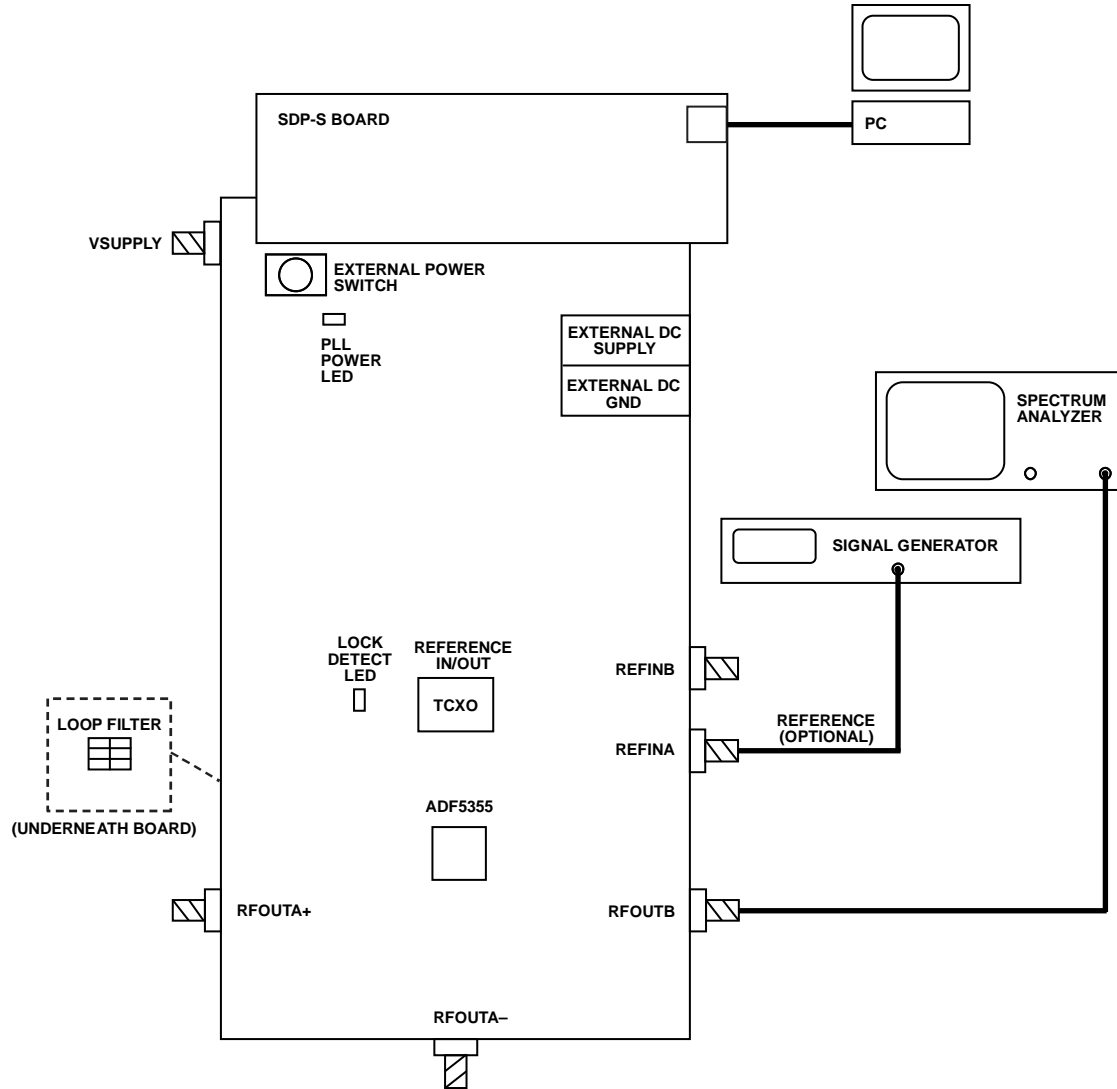

Figure 4. Evaluation Setup Block Diagram
10. Connect the spectrum analyzer to SMA Connector RFOUTA+. See Figure 4 for a typical evaluation setup.